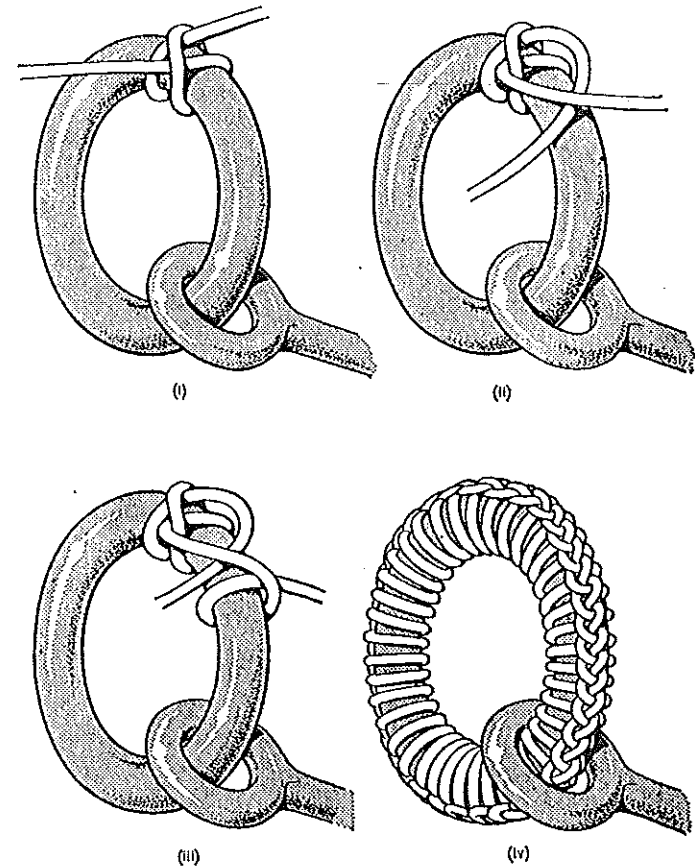

FIG. 4-28. Ringbolt hitching
Ringbolt hitching (fig. 4-28). This is used to cover curved fittings and is
of line and make a clove hitch round the eye (fig. 4-28(i)). (2) Cross the right part under the left and take it clear (fig. 4-28(ii)). (3) Make a half-hitch with the new right part (fig. 4-28(iii)). Repeat (2) and (3) as often as necessary to cover the eye, and finish off with an overhand knot so as to complete a reef knot.